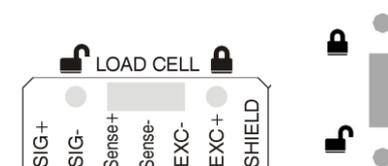

Figure 3.1.1 Calibration switch detail SWIFT Rail and SWIFT Panel
- Metrological parameters: These parameters affect directly the calibration counter, in the schemes are accompanied by the P symbol. To be able to modify these parameters it is necessary to set the correct PIN number and the calibration switch (see figure 3.1.1) should be in the unlock position when getting into the configuration menu. For remote access, it will also be needed to have the calibration software seal open.